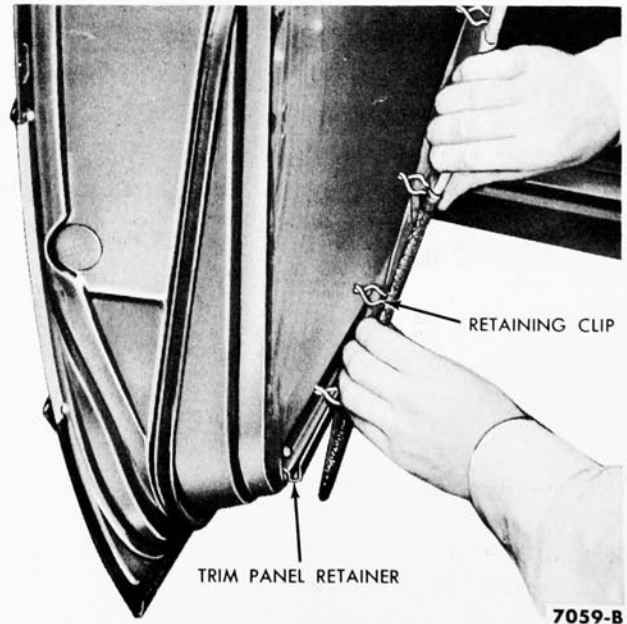

FIG. 3—Trim Panel Installation
3. Transfer the trim panel retaining clips to the new trim panel. Install the trim panel in the trim panel retainer and press the retaining clips into the door panel (Fig. 3).